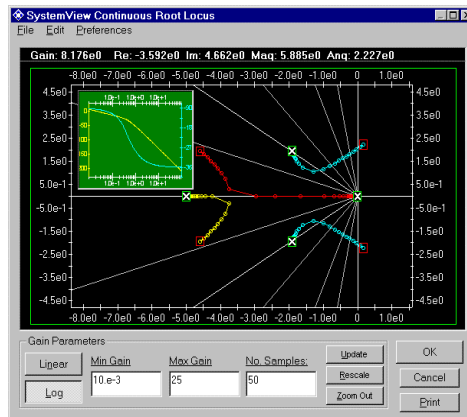

Figure 15.4. Using the mouse to move the Pole at $(-1+j0)$ in Figure 15.3 to $(-2 \pm j2)$.
Using the Mouse: Position the mouse over a pole (X) or zero (O). When the mouse pointer changes to a multi-pointed arrow, click and drag it to the desired location in the s- or z-domain (Figure 15.4). SystemView will automatically update $H(s)$ or $H(z)$ to reflect the change. Note that a strictly real pole or zero can be moved off the real axis. SystemView will automatically create a complex conjugate pair.